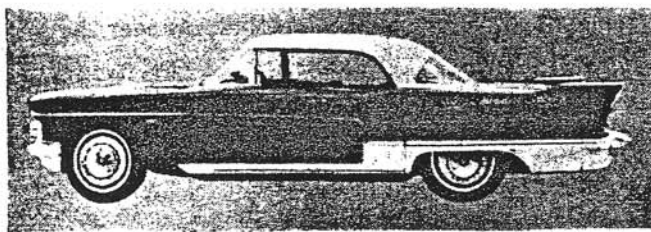

Fig. 6—1956 Cadillac Eldorado Brougham
1. The car was to be only 55½ in. high (Fig. 6) which was 3½ in. lower than our standard sedan